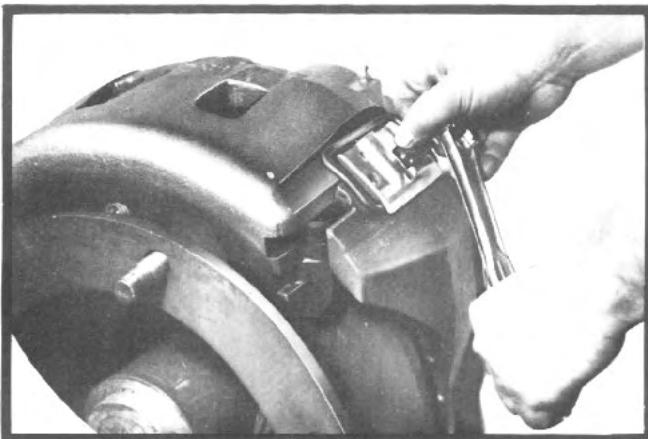

Fig. 21—Removing screws and caliper hold-down assembly.
(3) Remove the four (4) screws and remove caliper hold-down assembly. (Fig. 21)
(4) Install caliper assembly over the hub and rotor and position into grooves in torque plate.
(5) Install the caliper hold-down assemblies and tighten bolts to 40-ft-lbs. torque. (Fig. 21)
(6) Add brake fluid to bring level to ¼" from top of reservoir.
(7) If any hydraulic fluid lines have been disconnected, bleed the hydraulic brake system. Pump the brake pedal several times to make sure brake shoes are adjusted.
(8) Install the front wheels and lower vehicle